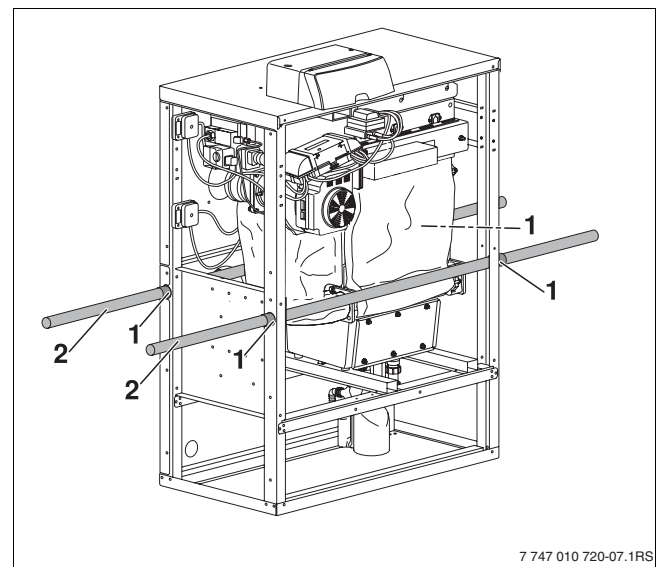

Fig. 7 Transporting the boiler using pipes
- Push the pipes through the holes at the front and rear of the boiler (→ Fig. 7).
- Secure the pipes against slipping in the positions shown in Fig. 7, using adhesive tape for example.